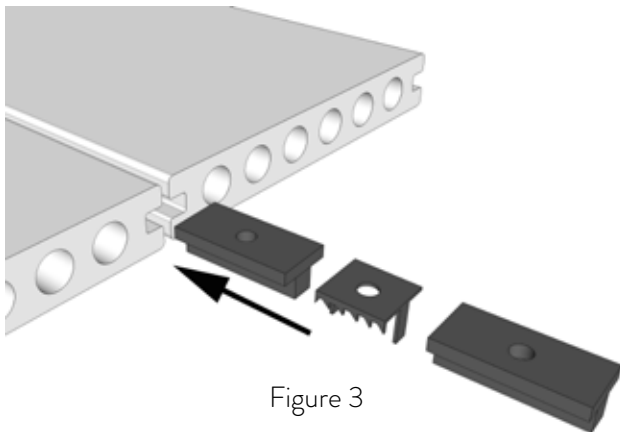

Figure 3
0.1 Fixed and movable fastener installation schematic, as shown in Figure 3: